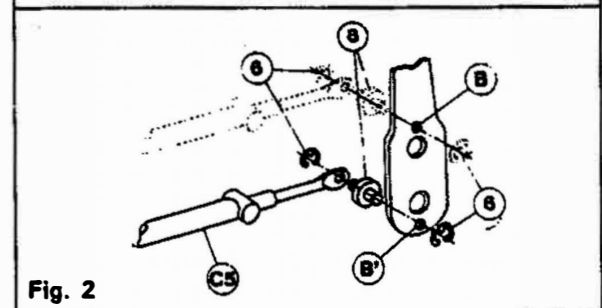

Fig. 2
**INSTALLATION WITHOUT CONNECTION KIT (FIG. 2)**
**MONTAGE SANS KIT DE CONNEXION (FIG. 2)**